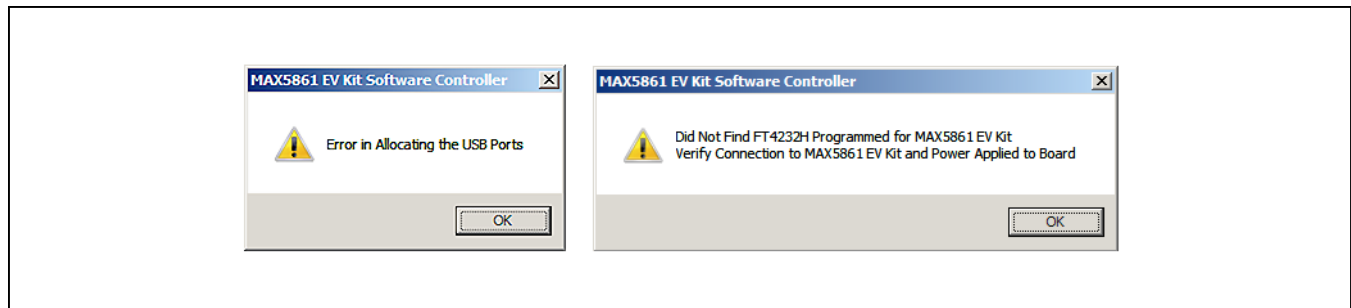

Figure 5. Error in Allocating USB Ports and Failed to Connect to MAX5861 EV Kit Windows
- ii) The EVKIT USB ports can take a few minutes to fully enumerate. If the ports have not enumerated yet, the error window shown in Figure 5 will appear.
USB communication to the FTDI microcontroller’s SPI is verified upon execution of the MAX5861 EV kit Software Controller. If the USB is not connected or communicating to the interface correctly, a pop-up window appears (Figure 5).